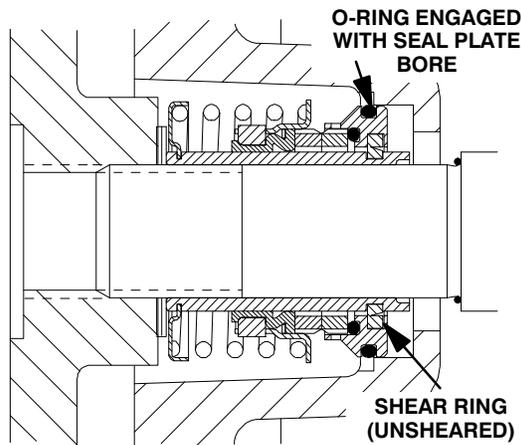

Figure 8. Seal Partially Installed
Clean and inspect the impeller as described in **Impeller Installation and Adjustment.** Install the full set of impeller shims (3) provided with the seal, and screw the impeller onto the shaft until it is seated against the seal (see Figure 8).